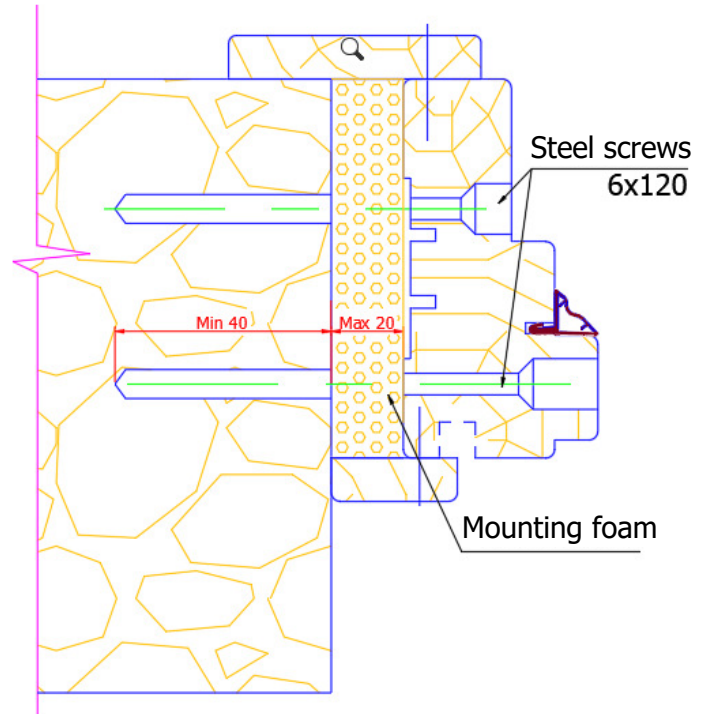

Figure 2. The mounting gap between the door hinges and the structure opening is filled with mounting foam.
12. The crack between the door frame and the wall is sealed with insulating material (assembly foam, stone wool, glass wool); see **figure 2**. Sealing must be done carefully, and it must be ensured that the frames do not bend due to excessive use of sealing materials.